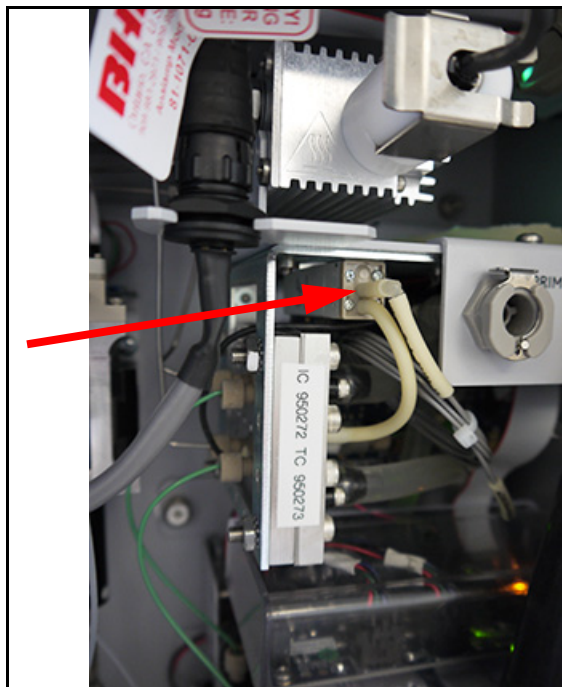

Figure 92: Backflushing the Sample Side
1. Disconnect the top tubing from the solenoid valve (Figure 92) and observe to see if water drips from the end of the tubing.